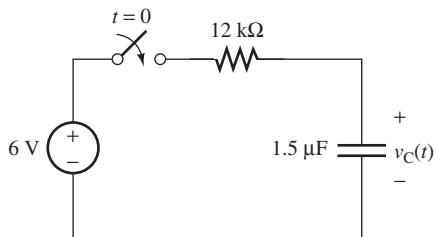

FIGURE P5.4 Circuit for Problem 5.4.
5.4 (A) Find the value of $v_C(t)$ in Figure P5.4 at $t = 42$ ms. $v_C(0) = 0$. (The switch closes at $t = 0$.)